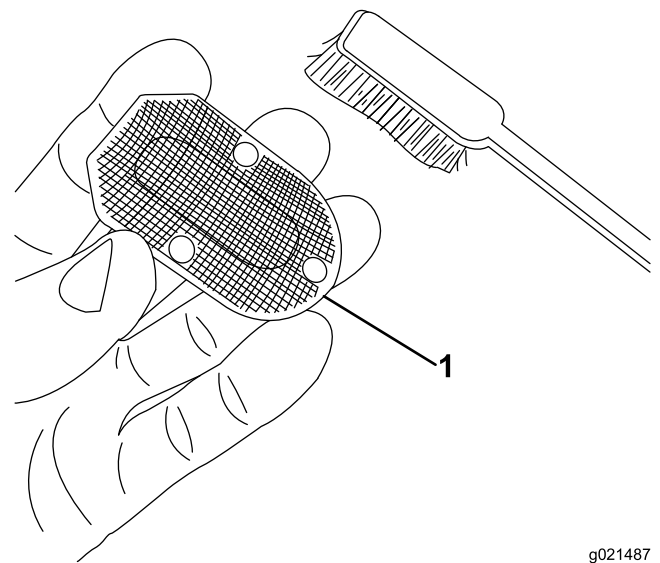

Figure 32
3. Use a brush to remove carbon deposits from the spark arrestor screen (Figure 32).